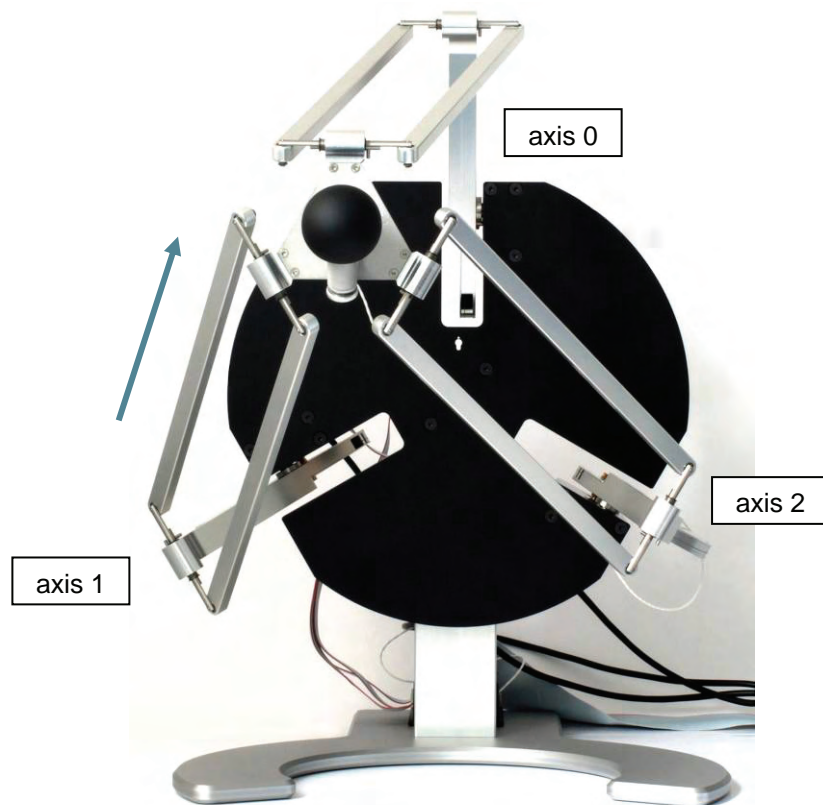

figure 12 – moving the end-effector toward the calibration position
2. by holding the force button on the control unit for 2 seconds while maintaining the end-effector at the calibration position (axis 0 retracted, axis 1 and 2 extended, see figure 12). **Make sure all axis are resting on their respective mechanical end-stop** prior to holding the force button down, or the calibration might be incorrect.